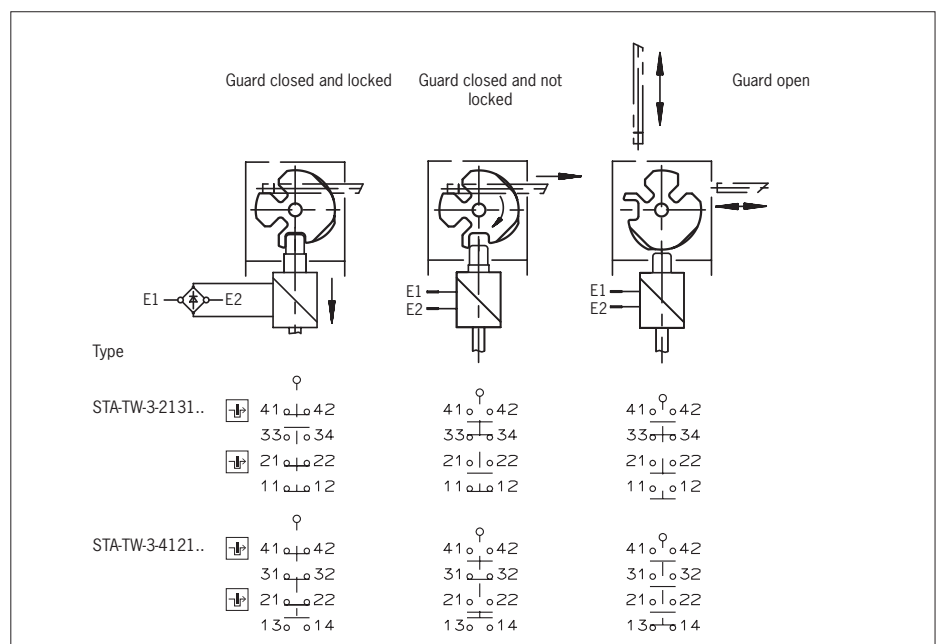

Fig. 3: Switching elements and switching functions
3. Connect and tighten terminals with 0.5 Nm (for terminal assignment, see Fig. 3).